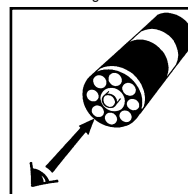

Figure 6
a. **Low Range Comparator (fig. 6):**